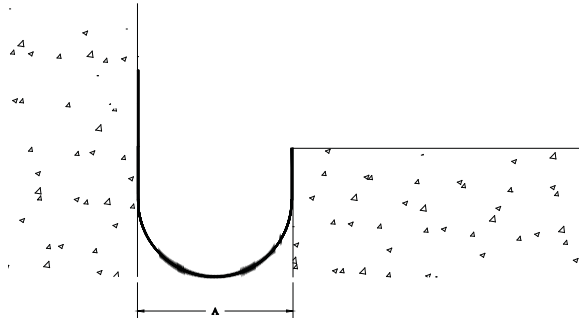

Figure 5
**STEP 5.** Press the edge of the water barrier onto the double-sided tape so that it is secured to the assembly and so that the edge of the membrane is flush with the surface of the assembly, see Figure 5.
**STEP 10.** Using the anchors provided by the factory, attach the joint cover system to the concrete (Figure 5).